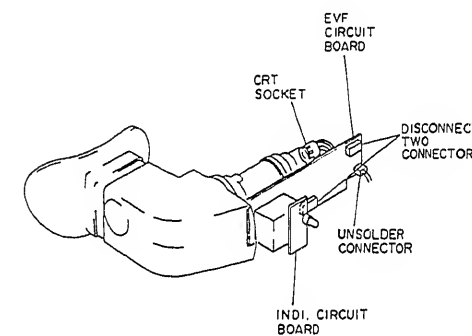

Fig. 2-153
3. Disconnect two (2) connector (CN1D, CN401) and unsolder one (1) connector (CN803) on the EVF circuit board. (See Fig. 2-153)